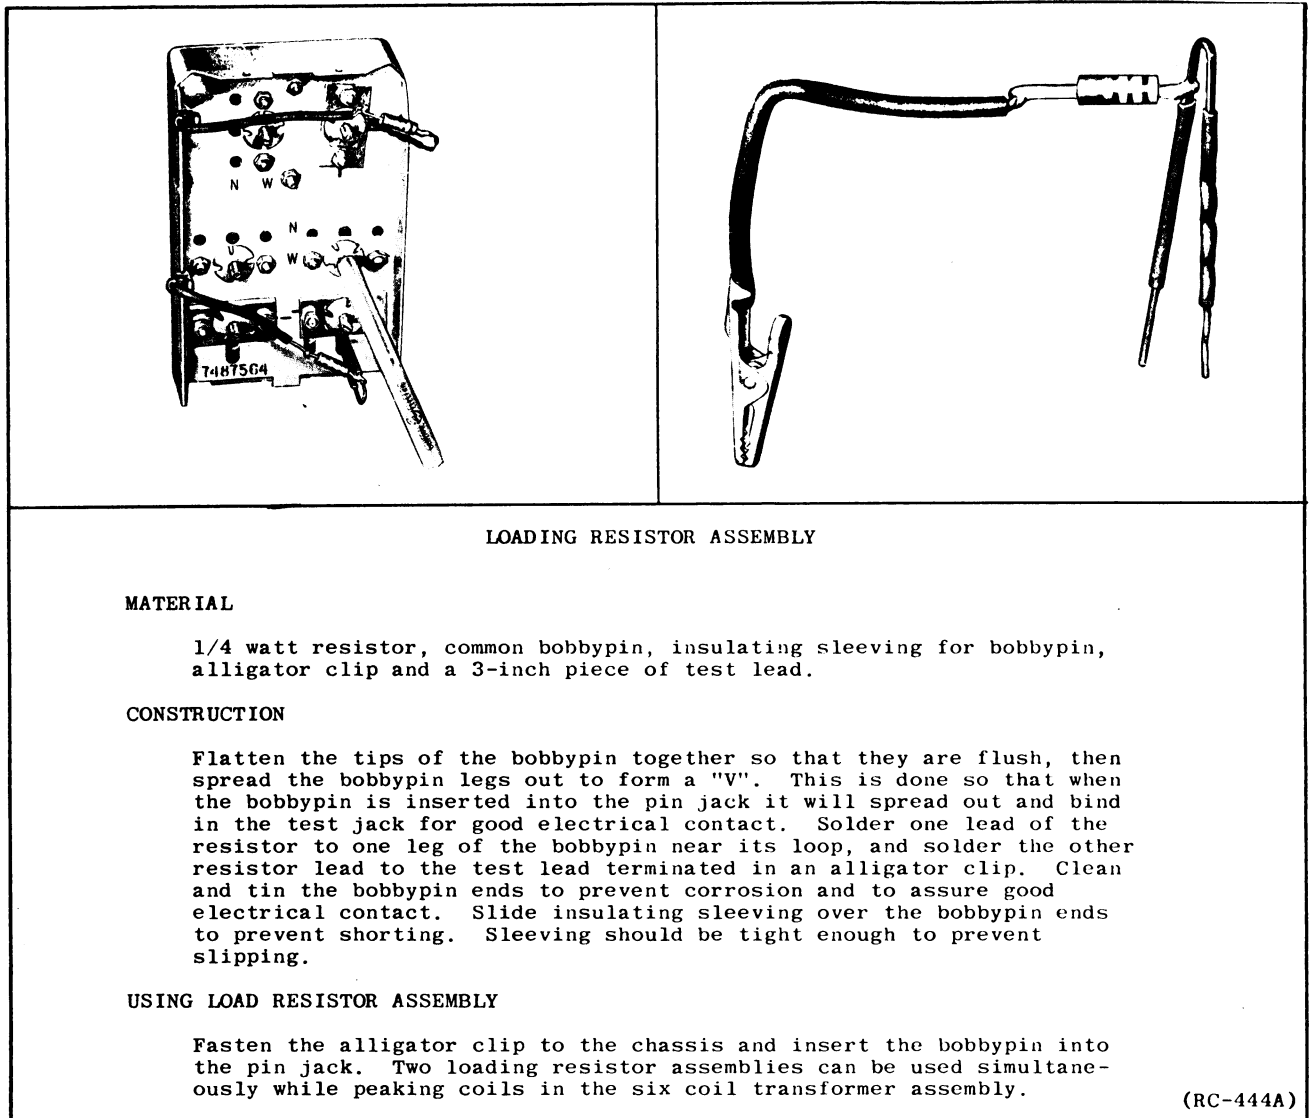
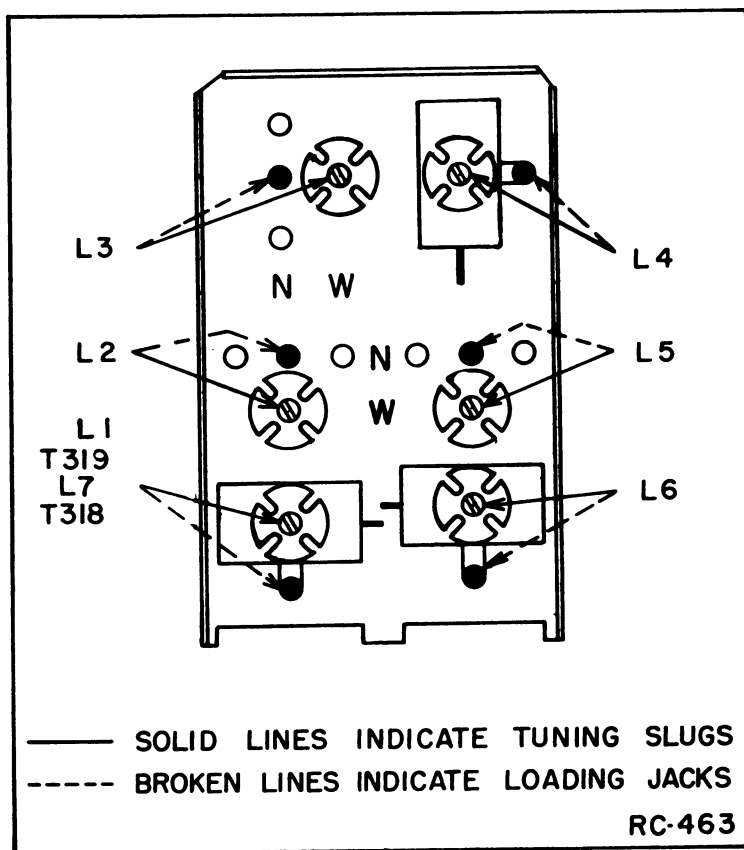

Figure 1
Figure 2 Location of Tuning Slugs and Jacks,
4. Two load resistor assemblies, made up as shown in Fig. 1, if resistor loading method is to be used. 39,000-ohm resistors are recommended.
3. Refer to Fig. 1 for proper use of load resistors and Fig. 2 for location of coils and loading jacks.
1. Locate tuning slugs and pin jacks as shown on Fig. 2.